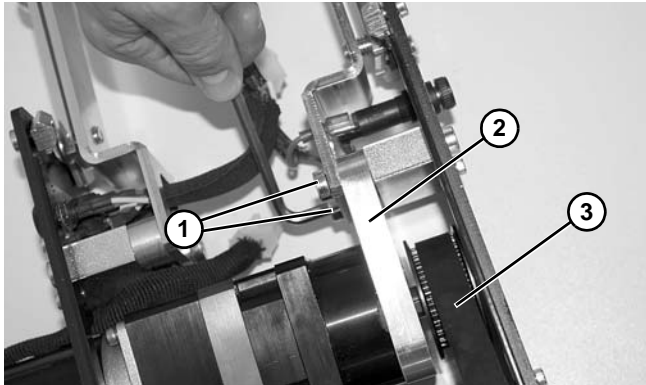

Figure 147
5. Remove two socket head screws (**Figure 147, item 1**) and washers securing drive motor plate (**Figure 147, item 2**) to conveyor.
6. Slide drive motor and plate (**Figure 147, item 2**) to loosen tension on timing belt (**Figure 147, item 3**).